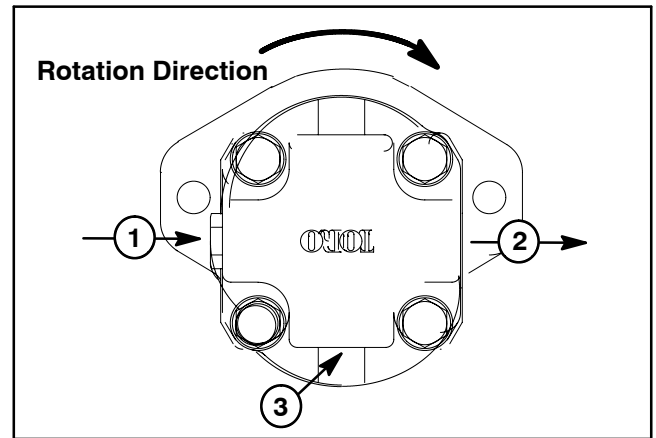

Figure 32
3. Determine deck manifold relief to be tested. Disconnect the inlet hydraulic hose to the appropriate deck motor (Fig. 32):